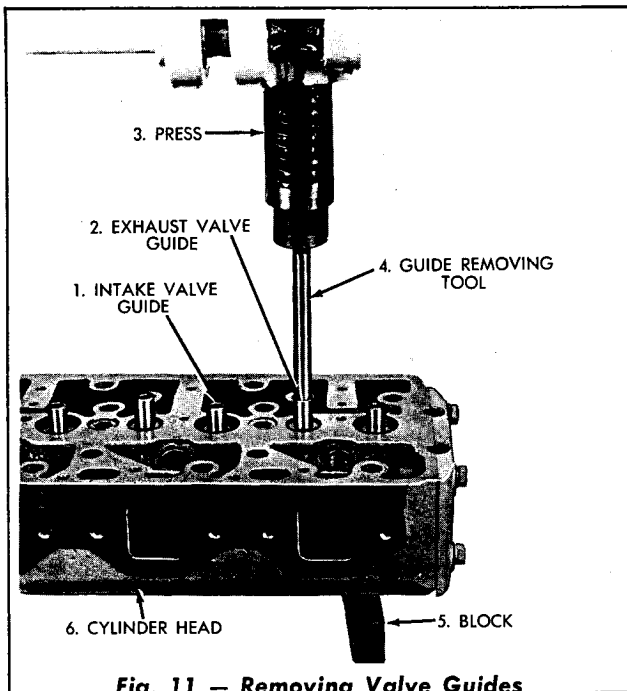

Fig. 11 — Removing Valve Guides
6. The valve guides may be removed by pressing them out through the bottom of the cylinder head, using a valve guide removing tool similar to the one shown in Fig. 11.